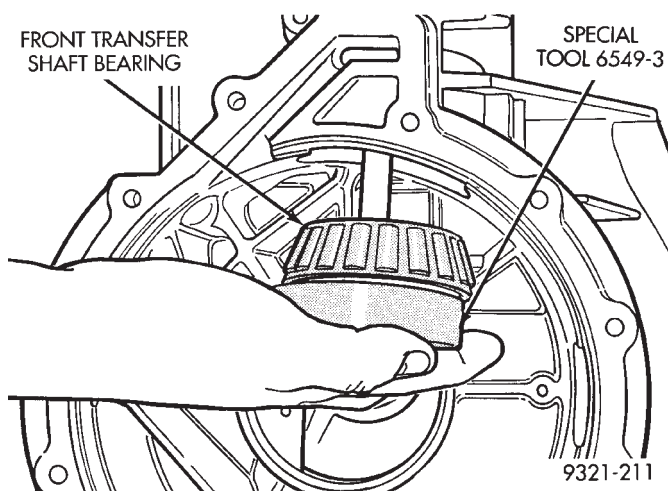

Fig. 303 Installing Gauge Disc with Front Transfer Shaft Bearing
(4) Install gauge disc and bearing into case using gauge disc rod Tool 6549-4 (Fig. 303).